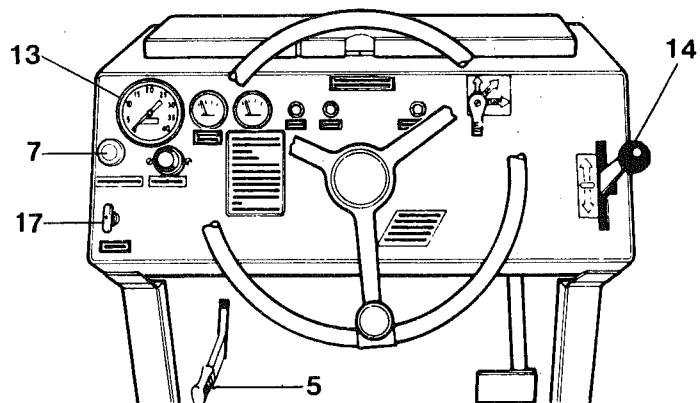

Fig. 12
- 1 Set the vibration control (4) to the "OFF" position.
- 2 Move the forward-reverse (14), fig. 12, to the "NEUTRAL" position.
- 5 Pull out the stop control (17), fig. 12, to stop the engine.
- 4 Start the engine. Adjust the throttle (7) until the tachometer (13) reads 2400 rpm. Carry out fine adjustment of the speed by turning the upper part of the throttle.
- 5 Release the handbrake and move the forward-reverse lever (14) to the desired direction of travel and control the speed of the roller with this lever.
- 6 Use the vibration control (4) to engage vibration when the roller is in motion. If the engine speed should drop, increase it to 2400 rpm (7).
- 7 Disengage the vibration when changing the direction of travel. To change the direction of travel from forward to reverse or vice versa, move the forward-reverse lever (14), fig. 12, slowly past the "NEUTRAL" position. The hydrostatic transmission ensures that the roller will be brought to a stop and will reverse its direction of travel smoothly.